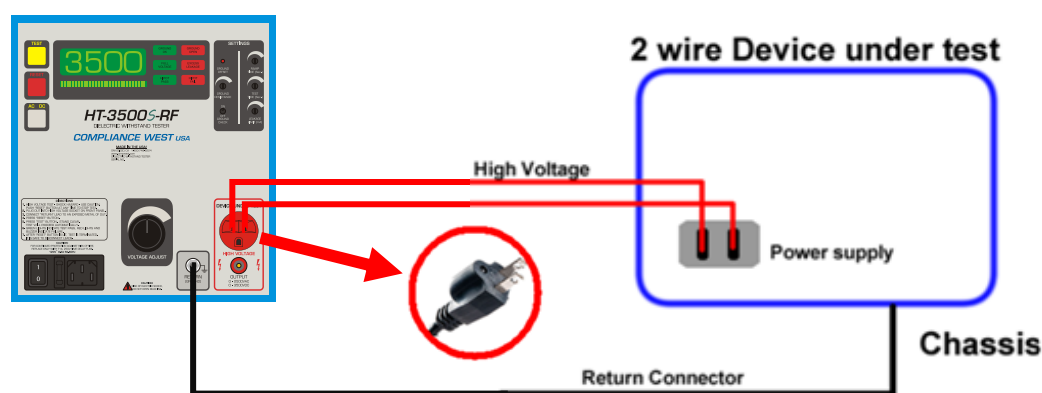

Figure 5. Testing a Two Wire Power Cord Device
4. Plug the power supply cord of the device being tested into the **Device** receptacle on the panel of the HT-3500S-RF unit. See Figure 5 for detailed connections.